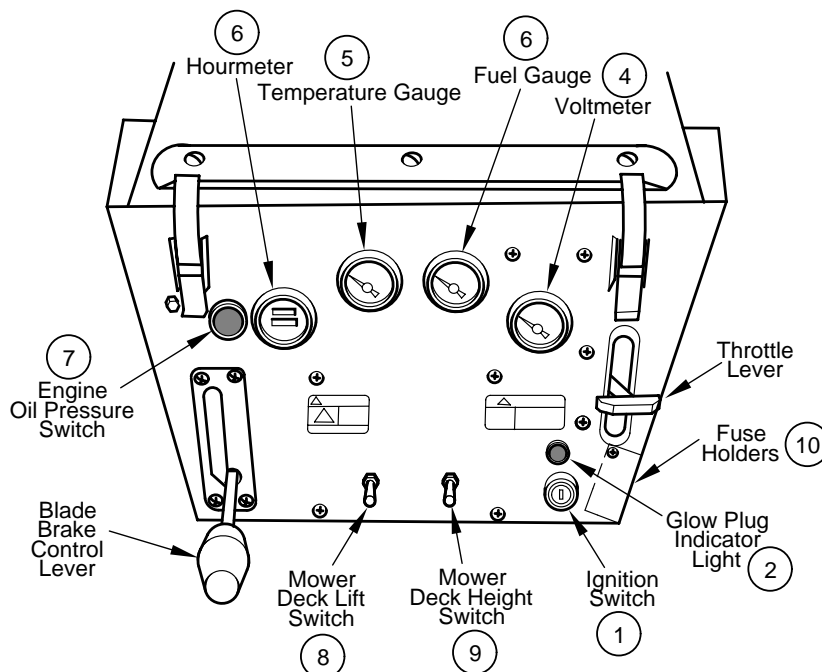

Figure 4-1 Instrument Panel
##### A. Instrument Panel (See Figure 4-1)
1. **Blade Brake Control Lever (Figure 4-1):** Used to engage and disengage the mower blade brake. Pulling the lever down and to the right engages the brake and stops the blades from rotating. Pushing the lever up and to the left disengages the brake, allowing blades to rotate.
2. **Throttle Lever (Figure 4-1):** Regulates engine speed. Push the lever forward to increase or pull the lever backwards to decrease the engine speed.